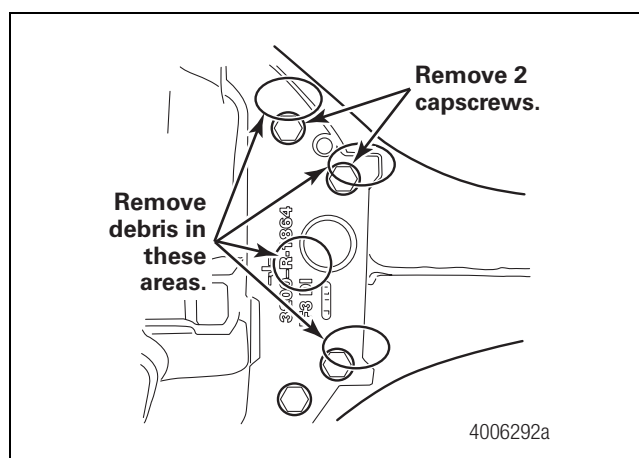

Figure 2
3. Remove grease and debris from the carrier flange surfaces of the rear-rear axle. The drill guide must be installed onto a clean surface. Figure 2.
4. Remove and retain two carrier-to-housing capscrews. They are the first two capscrews located above the centerline of the rear-rear axle on the driver's side. Set them aside to reinstall later in the procedure. Figure 2.